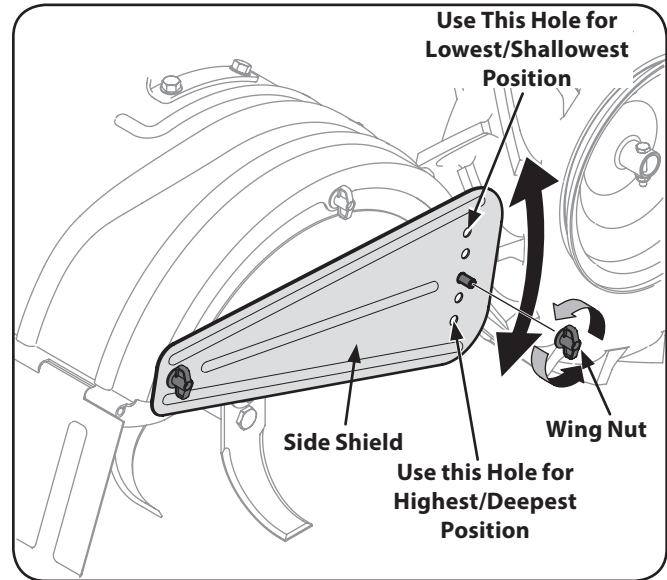

Figure 5-2
2. When breaking up sod and for shallow cultivation, use the setting which gives 1" of tilling depth (second hole from the top). Place the side shields in their lowest position. See Figure 5-2.
7. To adjust the side shields, remove the wing nuts. Move the side shield to the desired position and replace the wing nuts. Tighten securely. See Figure 5-2.